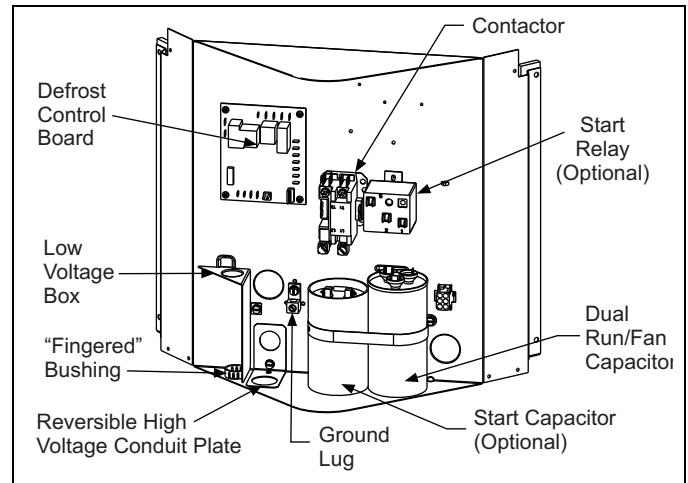
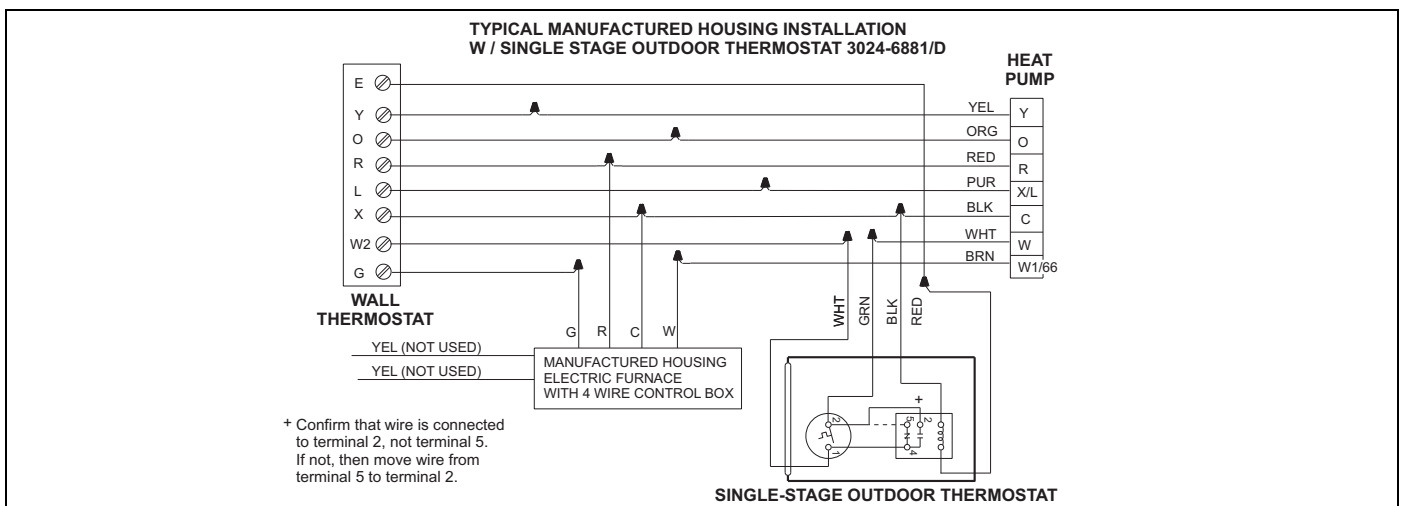

FIGURE 7: Outdoor Unit Control Box
FIGURE 8: Typical Wiring with Thermostat and Furnace / Air Handler
4. Route wires from disconnect through power wiring opening provided and into the unit control box as shown in Figure 7.
1. Route low voltage wiring into bottom of control box as shown in Figure 7. Make low voltage wiring connections inside the low voltage box per Figure 8.